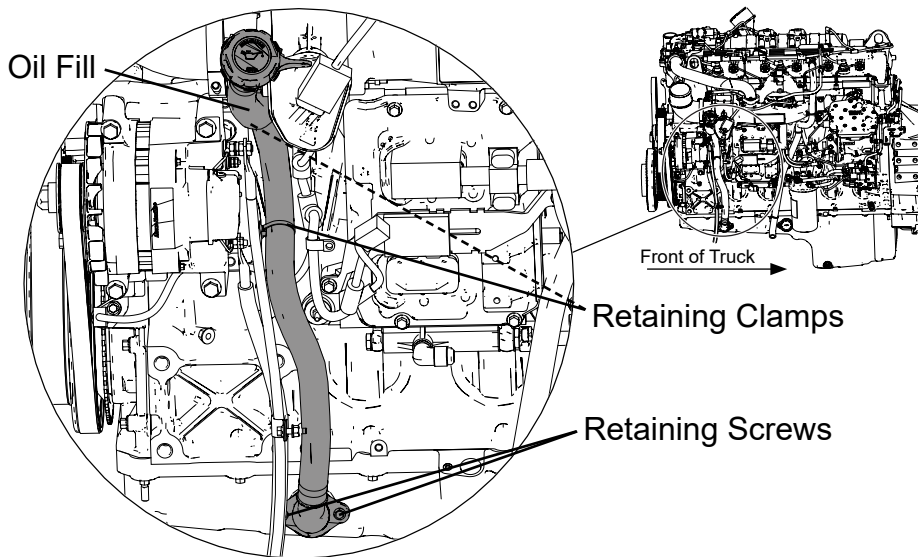

Figure 2
9. Locate oil fill assembly on right side of vehicle engine, see Figure 2.
10. Loosen and remove two retaining screws securing oil fill assembly to oil pan, see Figure 2. Save retaining screws.
11. Remove two oil fill tube retaining clamps from engine alternator bracket, see Figure 2.